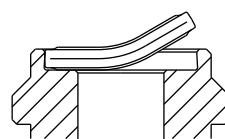

Fig. 3 Insert packing
- ② Insert the packing from the edge as shown in the Fig. 3.
- ③ Align the guide of the nozzle tip with the groove in the adaptor, push it in, and turn the nozzle tip clockwise about 60° until it clicks.